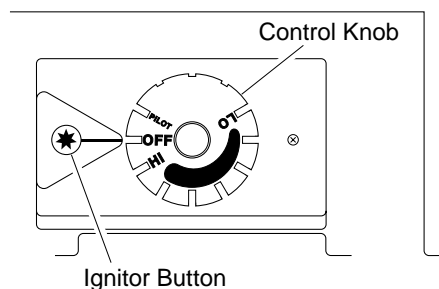

Figure 21 - Control Knob In The OFF Position
4. Wait five (5) minutes to clear out any gas. Then smell for gas, including near the floor. If you smell gas, **STOP!** Follow "B" in the safety information, column 1. If you don't smell gas, go to the next step.
5. Turn control knob counterclockwise to the PILOT position. Press in control knob for five (5) seconds (see Figure 21).